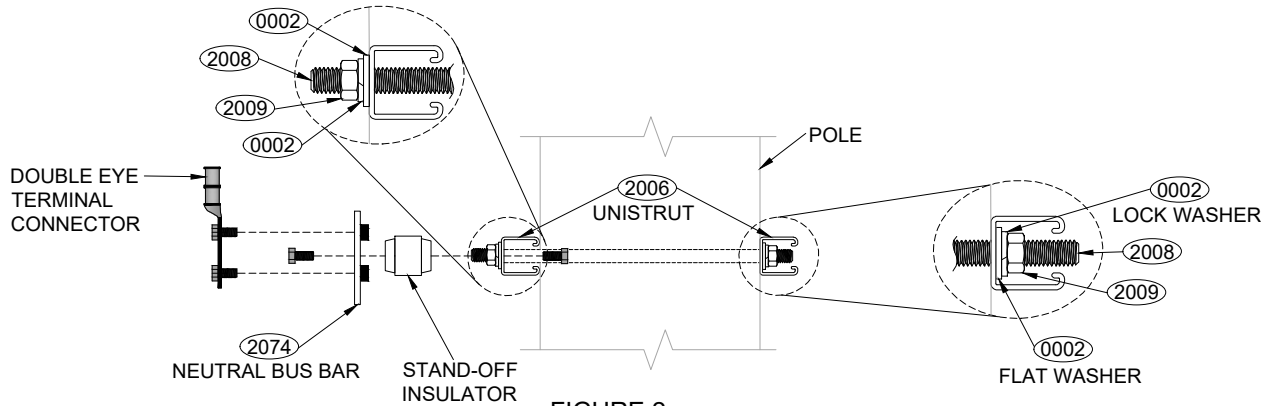

FIGURE 2
12. REFER TO FIGURE 2 AND FIGURE 4 FOR THE NEUTRAL BUS BAR INSTALLATION DETAILS.